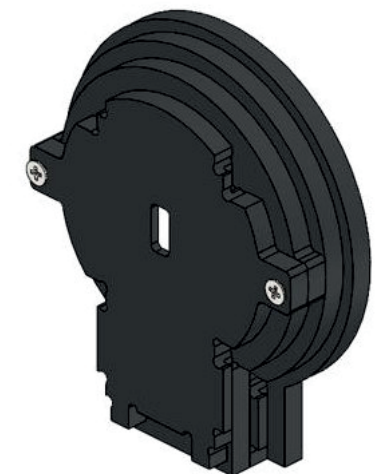

Fig. 65: Ring assembly
1) Arrange four rings in the order of increasing diameter and join them together using two M3x20 screws. (The largest ring is marked "HF + logo) (Fig. 65):